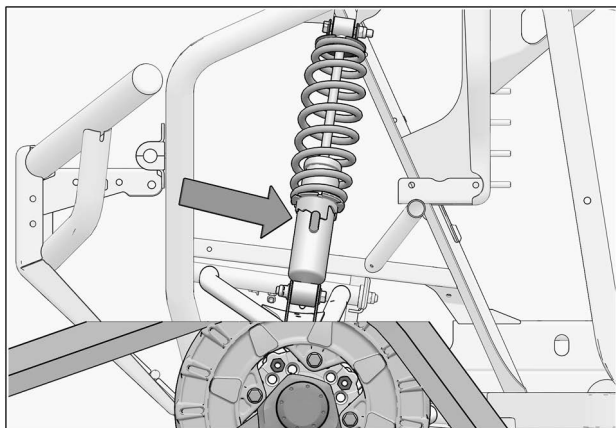

Fig. 29
1. Verify the suspension settings. If the shock absorbers are adjustable, adjust them to the stiffest setting to allow for maximum clearance between the System and the vehicle's fenders. See Fig. 29